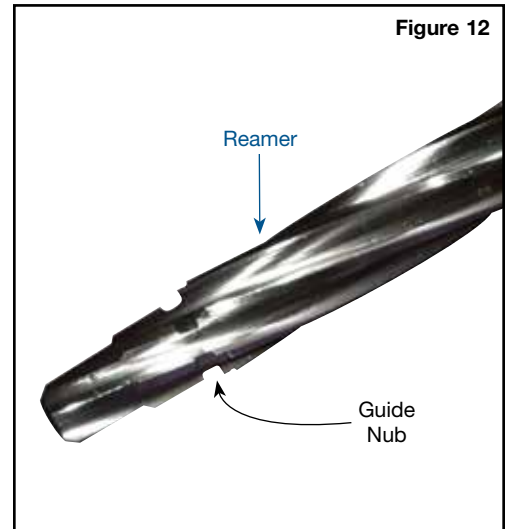

Figure 12
- k. The guide nub on the large reamer cutting diameter should fit into the first valve/pump body land to be cut (Figure 12 & 13).